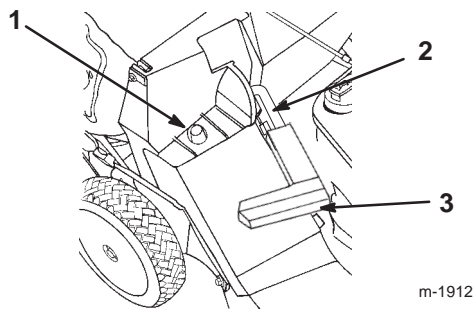

Figure 12
2. Ensure that the discharge door handle is fully forward and that the pin is engaged in the catch (Fig. 12).
3. Slide the hole in the bag frame onto the retaining post on the discharge tunnel (Fig. 12).
2. Raise the discharge door handle and move it forward to engage the pin with the catch (Fig. 12).